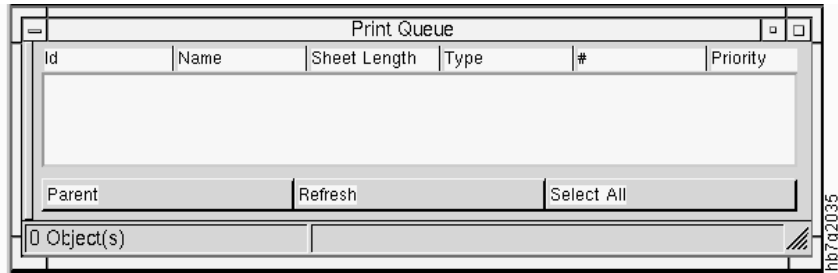

Figure 139. Print Queue Window
- To open the **Print Queue** window, as shown in Figure 139 on page 214, click the **Queue** pushbutton in the **Print Sequence** window or